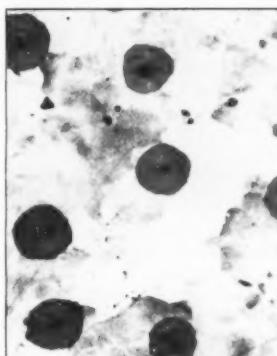

Fig. 3—Effects of
It is possible, however, to get a poor magnesium treatment as a result of the addition of too much or too little magnesium. Too much magnesium will produce an unduly hard iron, while too little magnesium will not give completely nodular graphite in the iron. Figure 3 illustrates cast iron treatments with (1) too little magnesium (0.019 per cent); (2) magnesium in the recommended range (0.08 per cent); and (3) too large an amount of magnesium (> 0.4 per cent). So far, indications are that the optimum range is 0.03 to 0.1 per cent magnesium retained.